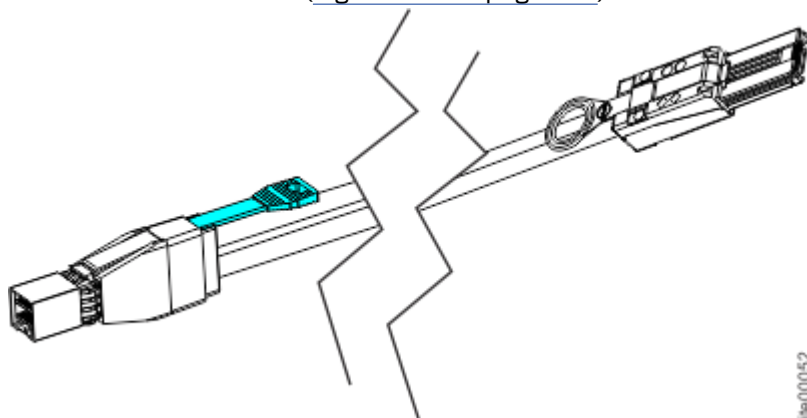

Figure 137. Mini SAS HD to Mini SAS cable
- Mini SAS HD to Mini SAS (Figure 137 on page 126)